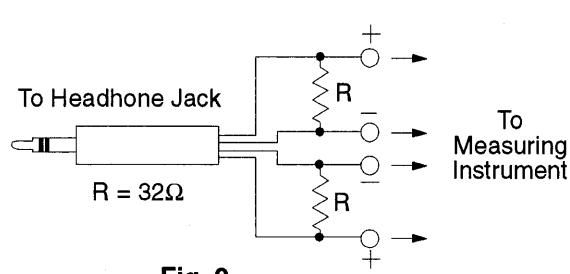

Fig. 2
| Fashion a loop of several turns of wire and radiate signal into loop of receiver. | 455 kHz 30% Mod. at 400Hz | Point of non-interference.(on/about 600kHz) | Headphone Jack (32Ω) Fabricate the plug as shown in Fig.2 and then connect the lead wires of the plug to the measuring instrument. | T2 (AM IFT) | Adjust for maximum output. |
| Connect to test point TP1 through ceramic capacitor (10pF). Negative side to test point TP2 . | 6.84 MHz | Tuning capacitor fully closed. | Headphone Jack (32Ω) (Fabricate the plug as shown in Fig.2 and then connect the lead wires of the plug to the measuring instrument.) | L10 (SW2 OSC. Coil) | Adjust for maximum output. |
| Connect to test point TP1 through FM dummy antenna. Negative side to test point TP2 . | (GU)....86.2 MHz (GC)....87.35 MHz ± 50 kHz | Variable capacitor fully closed. | Headphone Jack (32Ω) (Fabricate the plug as shown in Fig.2 and then connect the lead wires of the plug to the measuring instrument.) | L2 (FM OSC. Coil) | Adjust for maximum output. [*2] |
| QZZCWAT | Headphone Jack (32Ω) (Fabricate the plug as shown in Fig.2 and then connect the lead wires of the plug to the measuring instrument.) | Motor VR (As shown in Fig. 5) | 3000 ± 90 Hz | 1. Set the unit to 'TAPE' position. 2. Playback the middle part of the test tape (QZZCWAT). 3. Adjust motor VR for output of 3000 ± 90 Hz shown on frequency counter. |